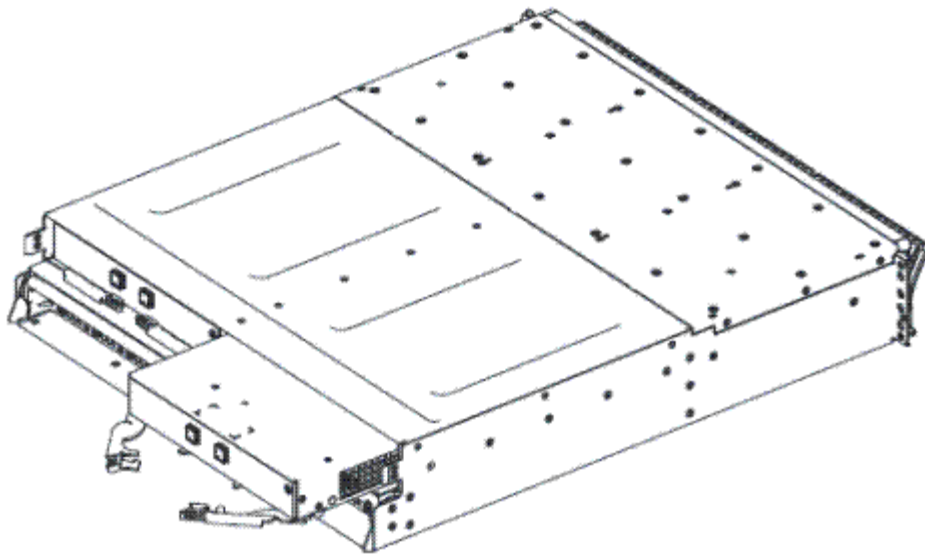

Figure 117. Removing and replacing the IBM Storage FlashSystem expansion canister
6. Open the two release levers as shown in Figure 117 on page 183.